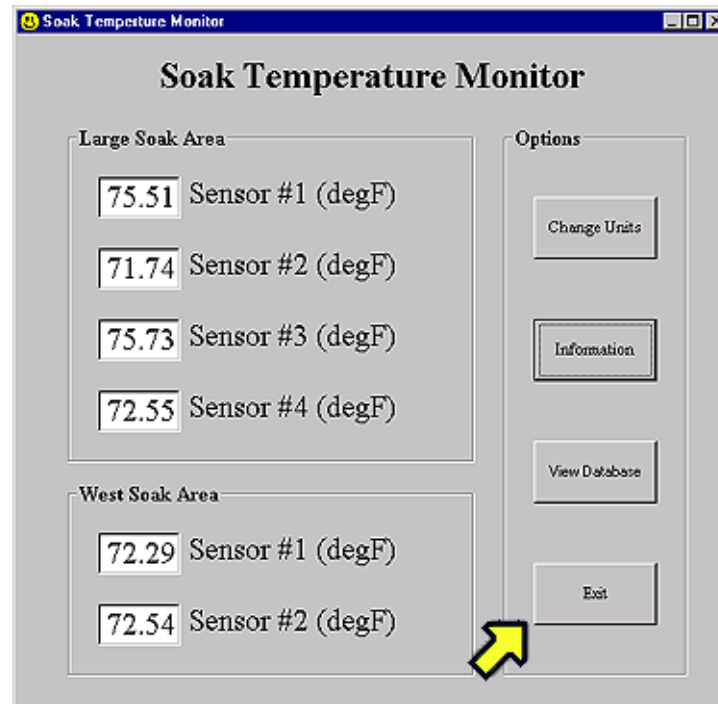

Figure 10
- 110 The STM application should run continuously. If it is necessary to shut down the program, it can only be done by clicking on the Soak Temperature Monitor "Exit" button. See the arrow in Figure 10.